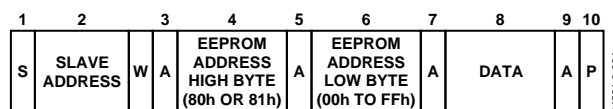

Figure 33. Single-Byte Write to EEPROM
- Write a single byte of data to EEPROM. In this case, the command byte is the high byte of the EEPROM address, 80h or 81h. The first data byte is the low byte of the EEPROM address and the second data byte is the actual data. Bit 1 of EEPROM Register 3 must be set. This is illustrated in Figure 33.